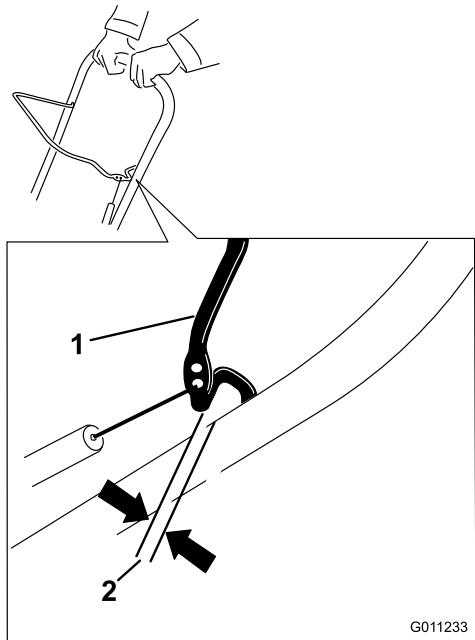

Figure 18
Move the control bar back toward the handle to remove the slack in the control cable (Figure 18).
**Note:** Ensure that a 1/16-inch to 1/8-inch (2 mm to 3 mm) gap exists between the control bar and the handle (Figure 18).